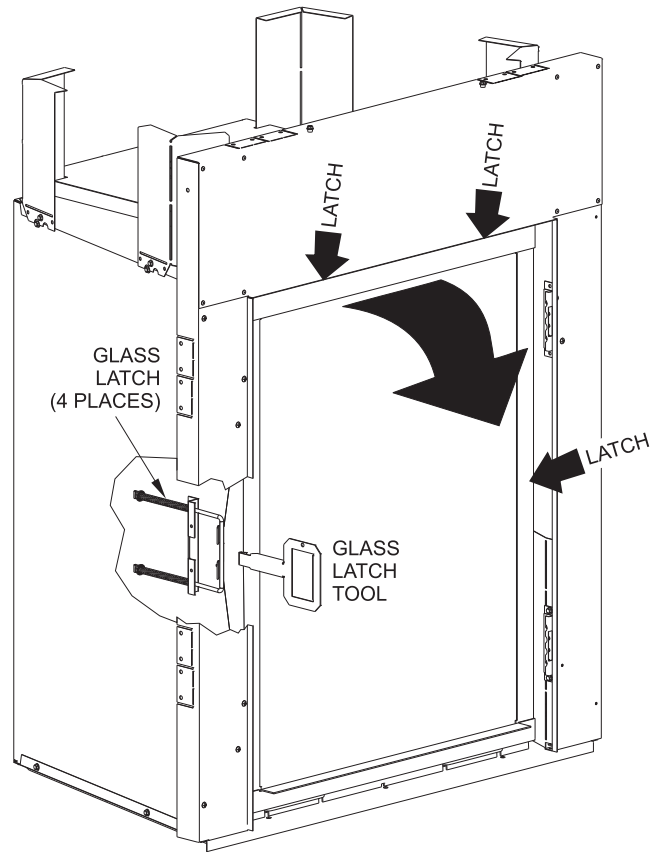

Figure 85
3. Use the glass latch tool to grip the latch bar and pry it over the glass frame hook flanges. **See Figure 85.**